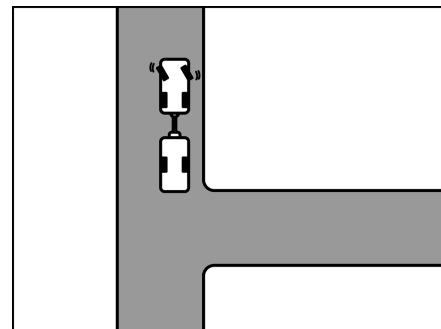

Fig. 10 Steer to the left
- With a stationary towing vehicle and trailer turn the steering wheel to the left (Bild 10).